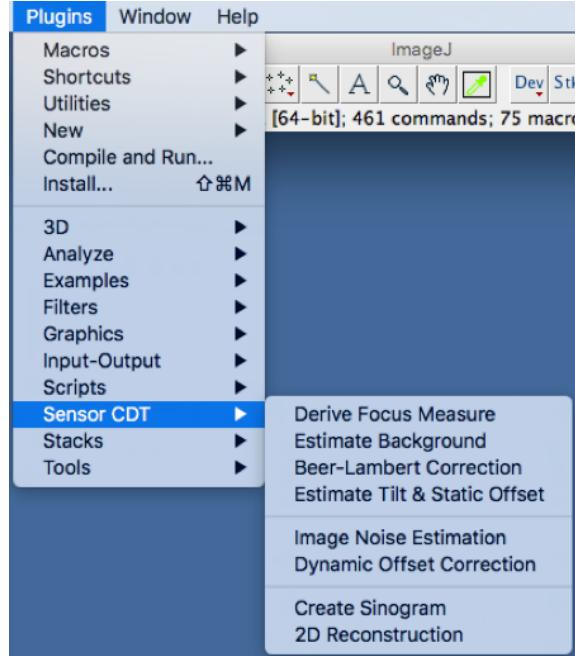

Figure 7: The OptiJ Plugin Library.
3. Save the *.jar* file in the *plugins* folder as shown in figure 7.
5. The OptiJ plugins should now appear under the *Plugins* tab in ImageJ as shown in figure 7. There should be 8 plugins: Derive Focus Measure; Estimate Background; Beer-Lambert Correction; Estimate Tilt & Static Offset;
2. Run the *Create Sinogram* plugin from the ImageJ *Plugins* tabs under the *OptiJ* group as shown in figure 7.
3. Run the 2D Reconstruction plugin from the ImageJ Plugins tabs under the OptiJ group as shown in figure 7.